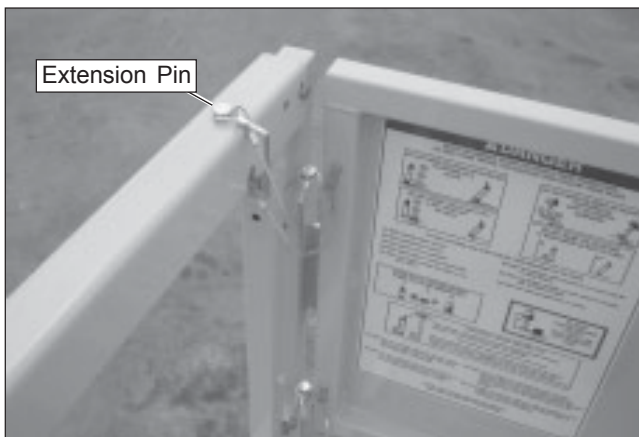

Figure 9.4 – Front of Platform
1. Remove the pin from the top rail on the left side of the platform (refer to Figure 9.4).